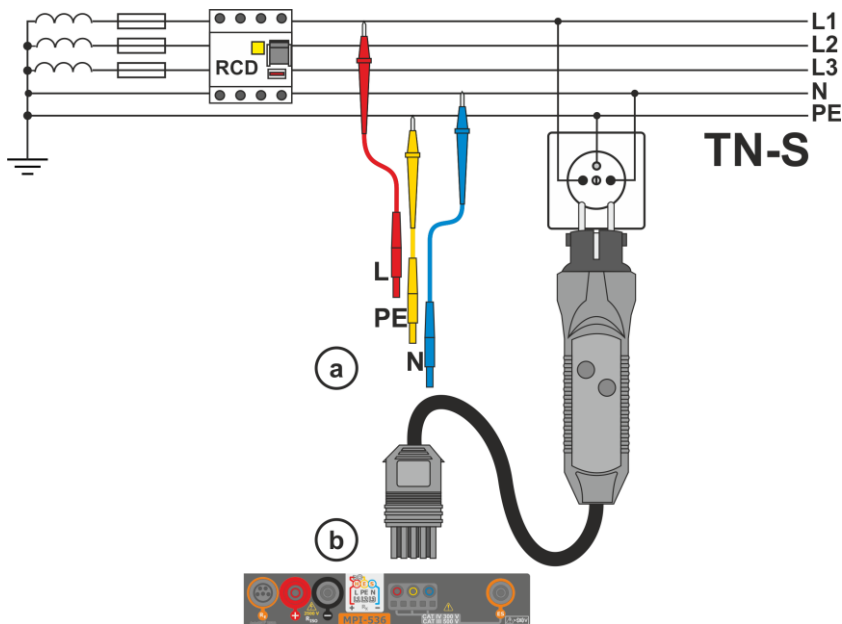

Fig. 3.3 Measurement in the TN-S system
- ① Connect test leads according to Fig. 3.3 , Fig. 3.4 lub Fig. 3.5.